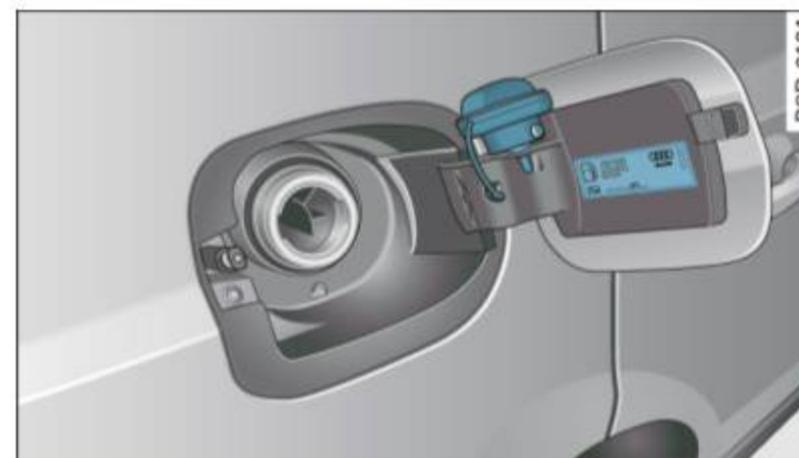

Fig. 196 Fuel filler flap with attached fuel cap
- Unscrew fuel cap counter-clockwise and hang it on the fuel filler flap ⇒ fig. 196. ▶